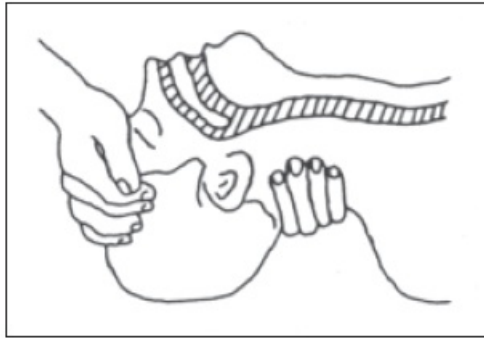

Figure 1
- the neck and tilt the head backwards to free the airway system (Figure 1).